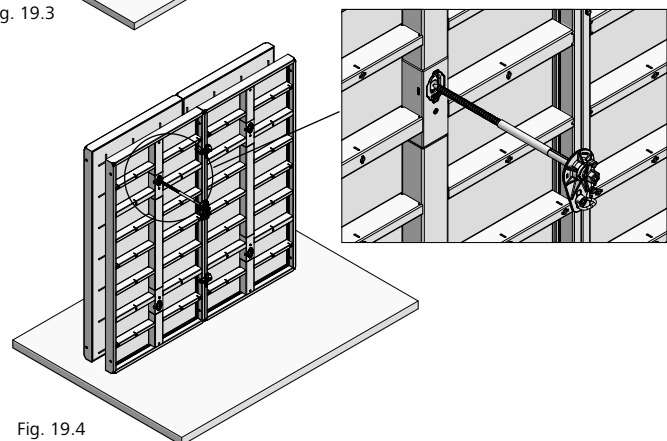

Fig. 19.4
5. Push the XT tie rod DW 20 through the combination tie hole of the final-formwork side into the combination tie hole of the initial-formwork panel using a ratchet spanner (Fig. 19.4). An articulated flange nut is not required on the initial-formwork side.